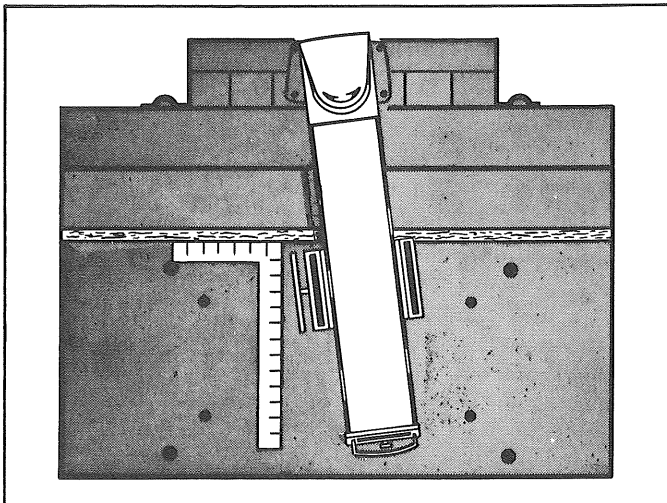

FIG. 25
1. Place the fence next to the large tableboard. Add the two small boards between the fence and the column. Tighten both table locks. Fig. 25.